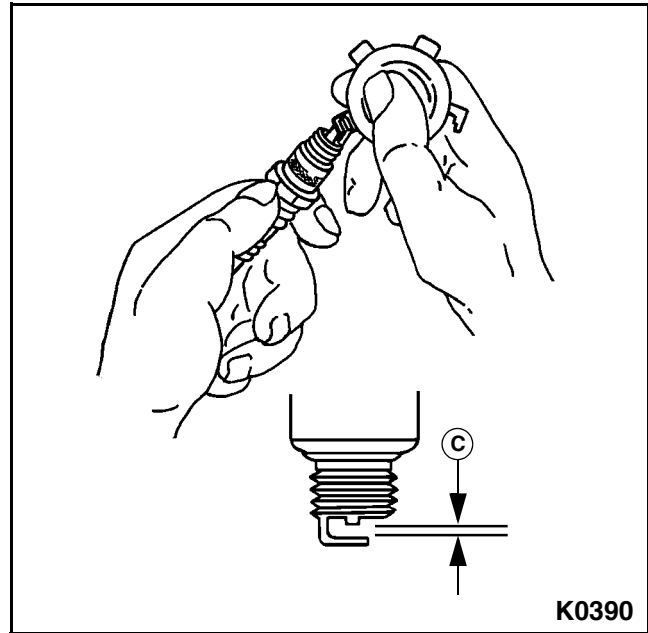

Figure 5-11
8. Use a spark plug gap tool to measure the gap (C) on each spark plug. Adjust the gap to specification. **See Figure 5-11.**